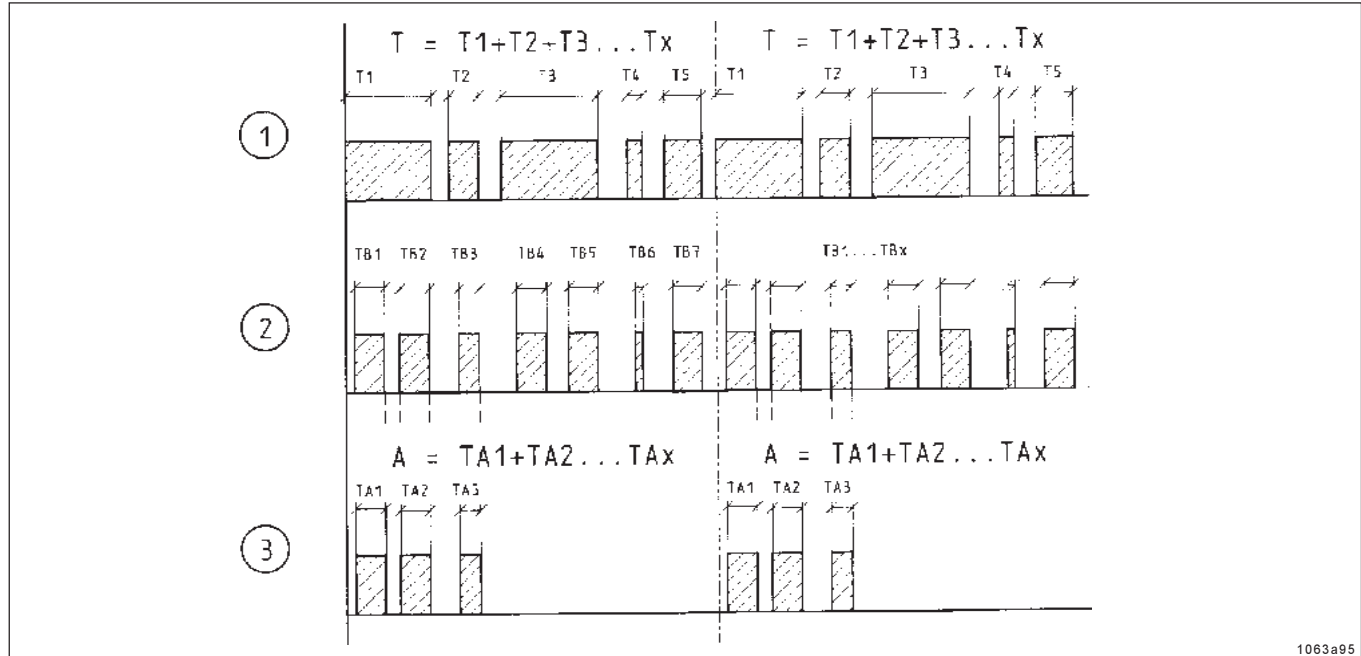

Fig. 6: Time sequence diagram
- The pump can therefore only operate for the duration of the individual braking operations. Refer to Fig. 6.
- As soon as the shock sensor transmits travelling motions to the electronic unit, the time of availability T (Fig. 6) starts.
- The operating time TA1 (Fig. 6) starts with the first braking actuation TB1 and runs for the duration of the braking.